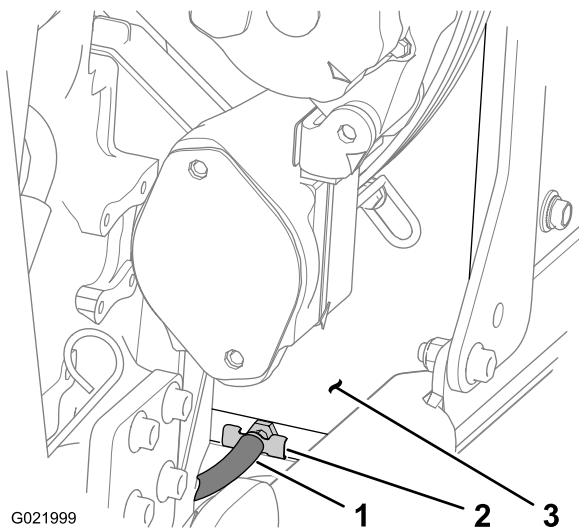

Figure 78
- Place a drain pan with a minimum capacity of 20 L (5.3 gallons) under the open end of the drain hose (Figure 78).
5. Close the drain valve (Figure 78).
- F. Open the drain valve and drain the cleaning solution into a drain pan (Figure 78).
- E. Open the drain valve (Figure 78) and drain the water into a drain pan.